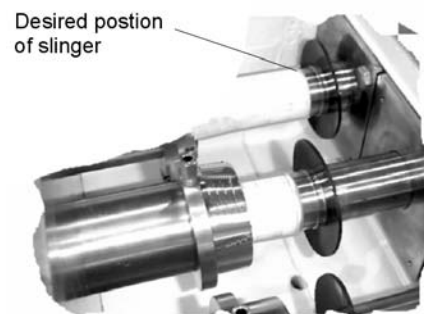

Figure 30 Slinger to Position Indicated
10. Rotate reducer sheave on the drive by hand to move the water slinger in far enough to allow the nut and flush ring to slide onto the plunger. See Figure 30